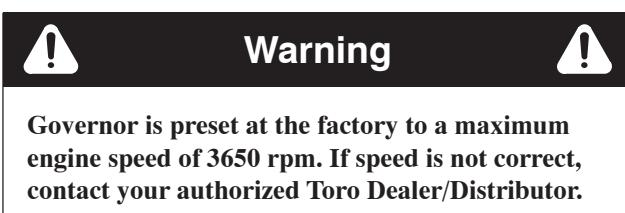

Figure 49
2. Adjust ball joint on accelerator cable (Fig. 49) to allow .200"-.350" of clearance between accelerator pedal arm and top of diamond tread floor plate, when a 20 lb. force is applied to center of pedal. Tighten locknut.